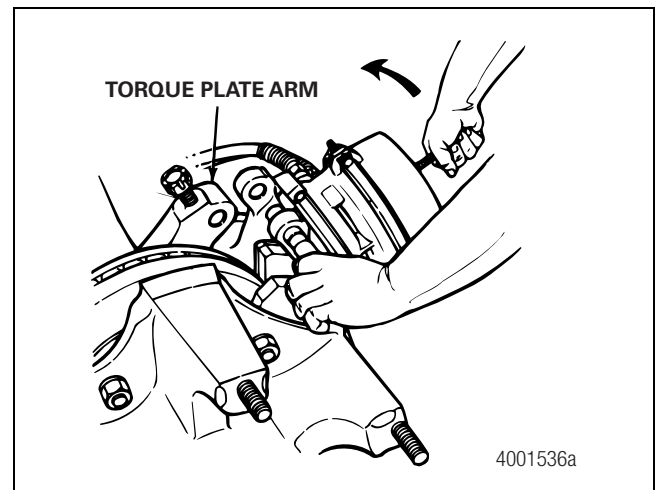

Figure 3.1
5. Remove the top slide pin. Temporarily raise the caliper into position over the disc (rotor). Figure 3.1.